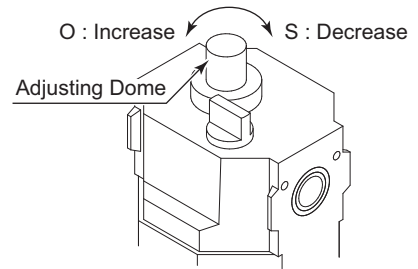

Fig. 4
(3) Adjustment of Oil Drip Rate (Fig. 4)
- ① Set the air pressure to the motors recommended maximum air pressure.
- ② Adjust the Oil Drip Rate to the recommended volume which is 1 to 3 drops / min.